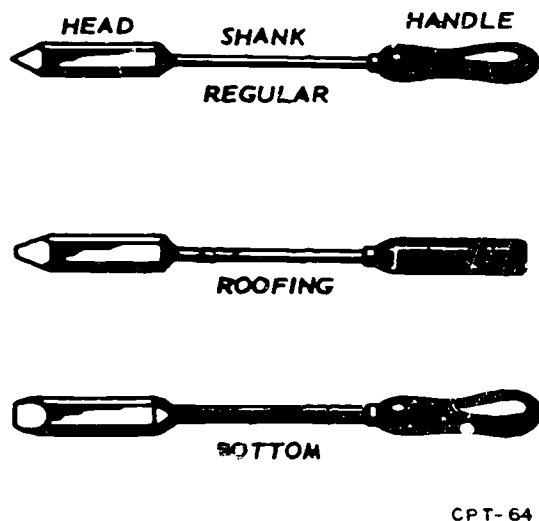

Figure 4-8. Soldering coppers.
**Soldering Coppers.** There are three shapes of fireheated coppers used in most sheet metal shops. Figure 4-8 illustrates the regular square point copper, bottom copper, and roofing copper.